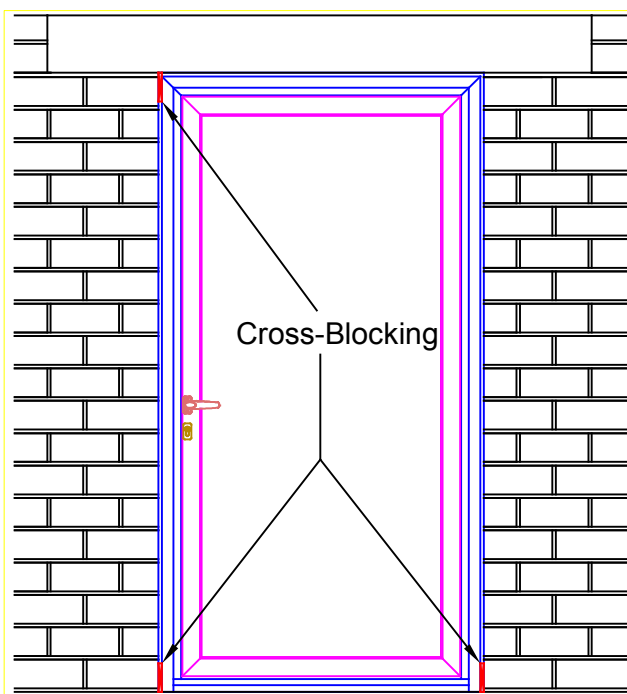

Figure 3
- E. If the door is installed in a receptor, in addition to the blocking and shims described in Step F (below), cross-blocking will be needed to prevent the door from going out of square when opened (See figures 3 and 4).